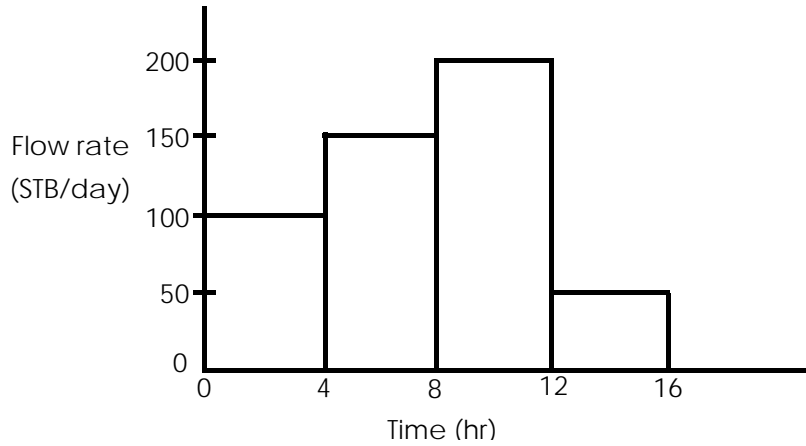

Figure 3: Rate history
b) **Figure 3** shows the rate history of a well that is producing under transient flow condition for 16 hours. Given the following data: